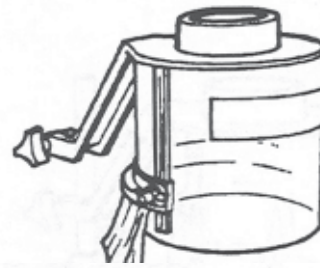

Figure D-73
- d. **IF YOU** want to use the optional full length dust shield for pin shaping or pin routing, shown in figures D-73 and D-74, follow the assembly instructions which came with it and use it in place of the standard dust shield illustrated in this manual. Then proceed to Step 3 below.